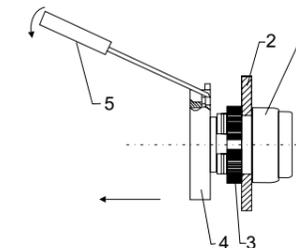

Fig. 5
2) Then, put the screwdriver in the hole located in the lug in the intermediate body, prise slightly and pull the body away from the drive element (fig. 5).